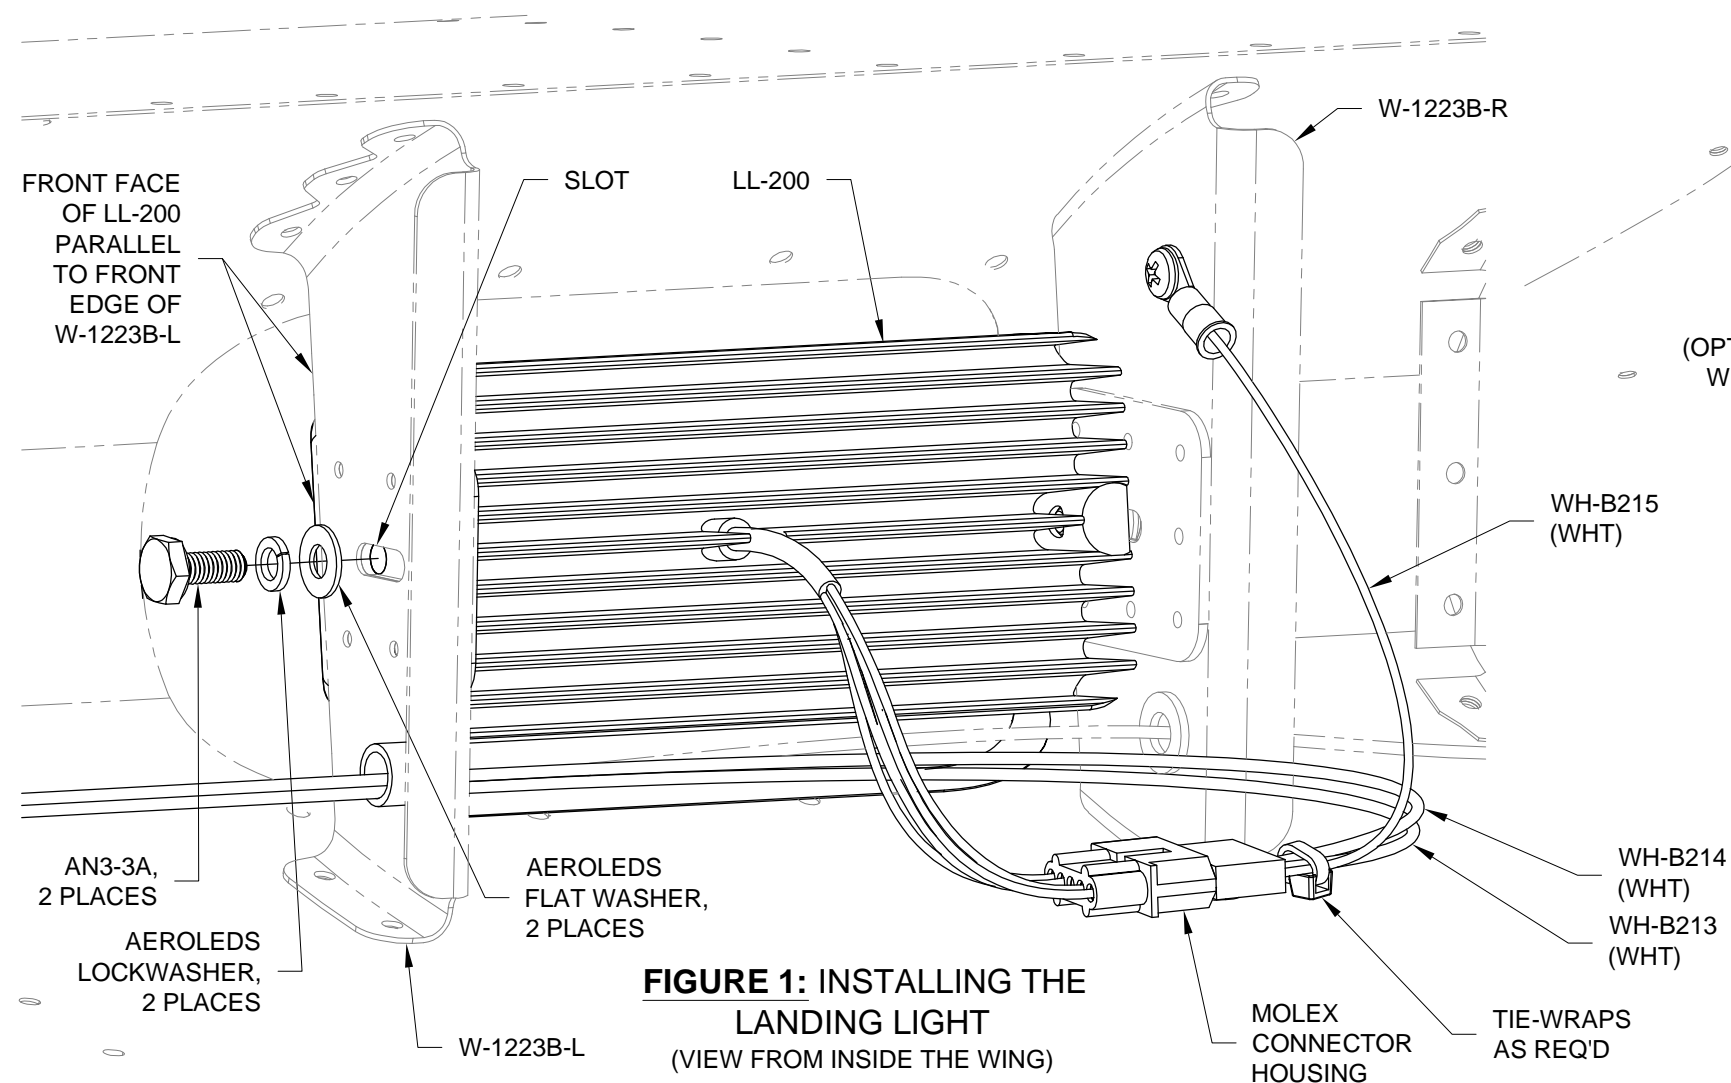

FIGURE 1: INSTALLING THE LANDING LIGHT
Step 7: Install the LL-200 Landing Light onto the W-1223B-L & -R Landing Light Ribs using the hardware called out in Figure 1. First align the attach holes in the landing light with the aft end of the slot in the landing light ribs, start the bolt with washers by hand then slide the landing light forward to the front of the slots.
Finish tightening the bolts using a box end wrench while continuing to hold the front face of the landing light parallel to the front edge of the landing light ribs. See Figure 1.